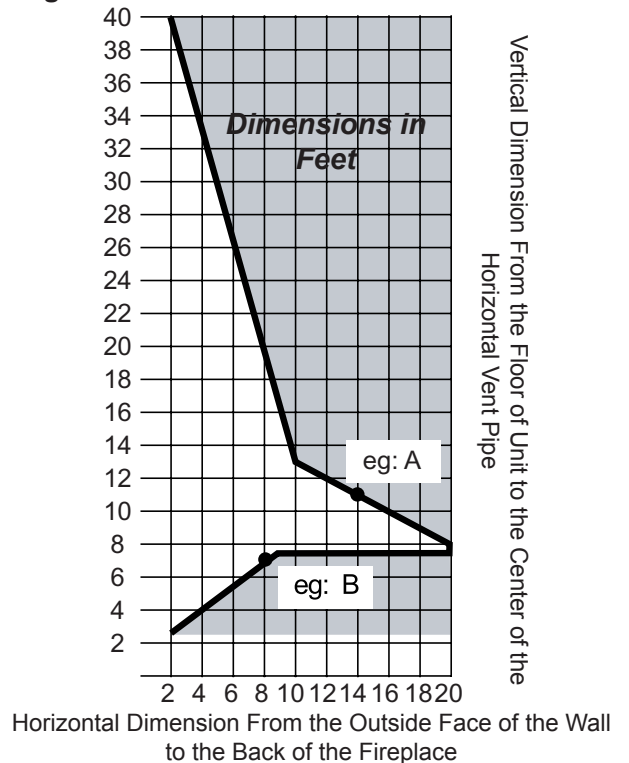

Figure 17 - Rear Wall Venting Graph
1. Locate and cut the vent opening in the wall. For combustible walls first frame in opening. See Figure 17.